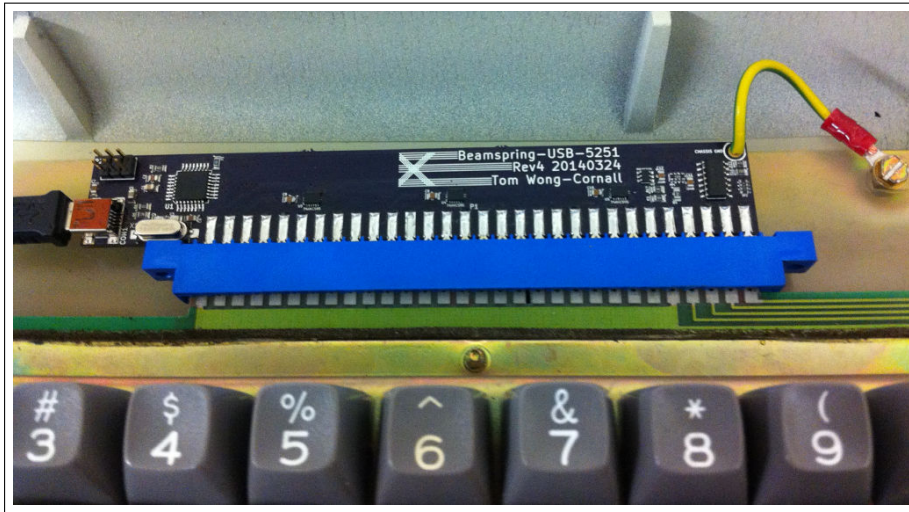

Figure 5: New controller correctly installed
2. Plug the new controller into the pad card; orientate it so the text is visible and readable from a typing position (see Figure 5 on the next page)